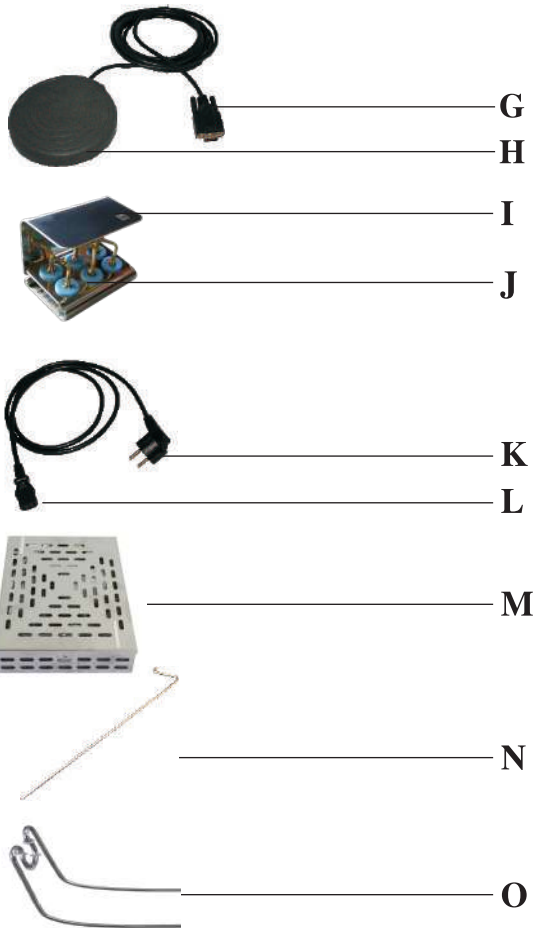

Fig.4
6.3.6 Insert the tube of US-II (LED) cord to the cord connector on the device (Fig.4—Ref.P);
6.3.7 Put the handpiece on the support (Fig.4—Ref.O);